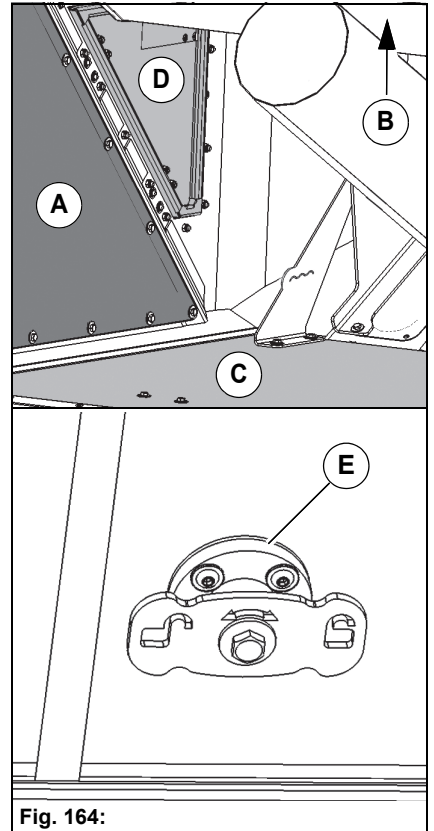

Fig. 164:
2. Half raise the dirt hopper and open the lock **Fig. 164-E** of the sump flap (hopper floor). Then bring the dirt hopper into its end position.
3. Clean the dirt hopper from the inside with a water hose or a high-pressure cleaner. Pay special attention to the lateral filter sieve **Fig. 164-A** and the filter sieve **Fig. 164-B** in the lid. The dirt hopper can also be cleaned through the side doors **Fig. 164-D**. The suction fan of the dirt hopper must be switched off to open the doors!
4. When the dirt hopper is raised, the valve of the settling tank **Fig. 164-C** opens. Clean the settling tank and flush trough the circulating water system with water.